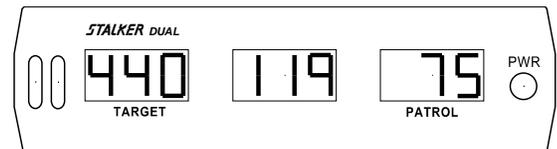

Fig 28
4. The Computed speed will be computed and shown in the patrol window. Fig 28 is an example of a 440 meters measurement zone, a 11.9 second measurement interval, and a 133 km/h computed speed. *Note: Tenths of a second are indicated by the right-most digit of the middle window.*